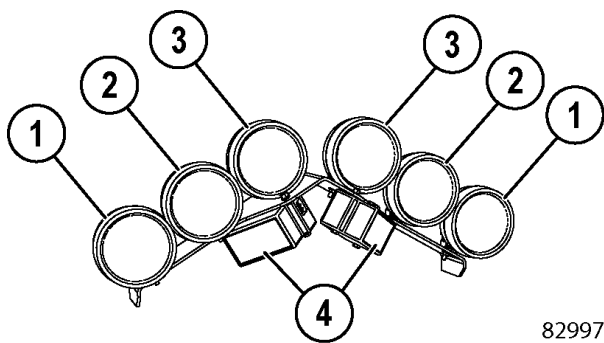

FIGURE 3-1. REAR LIGHTS
- Ensure the headlights, work lights, tail and stop lights (1, Figure 3-1), turn signal and clearance lights (2), and backup lights (3) are in proper working order. Ensure that the machine is equipped with the proper work lamps needed for the operating conditions. Verify backup alarms (4) are in proper working order.